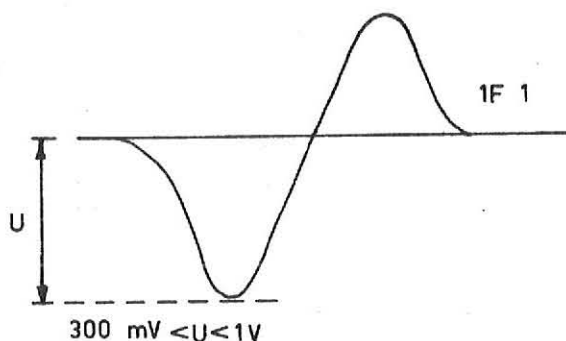

Figure 7-25
3. Check if the signal on the oscilloscope is the same as fig. 7-25